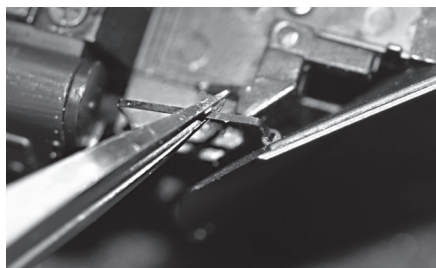

Figure 24 - Remove the snowplow foot stirrups
2. Gently roll the locomotive over to reveal the underside. With tweezers, gently pull both snowplow foot stirrups from the plow (shown in Figure 24).